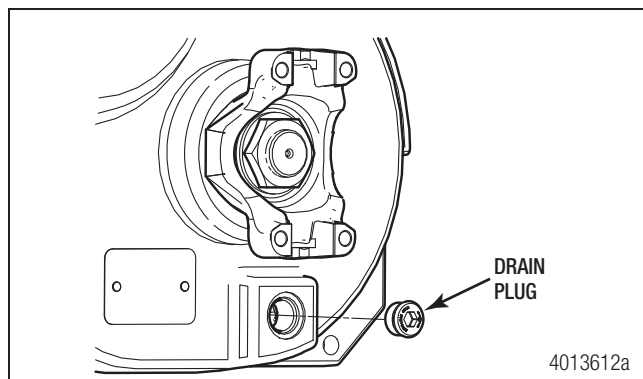

Figure 10.5
2. Remove the magnetic drain plug from the front of the transfer case. Drain and discard the oil correctly. Clean the plug. Figure 10.5.